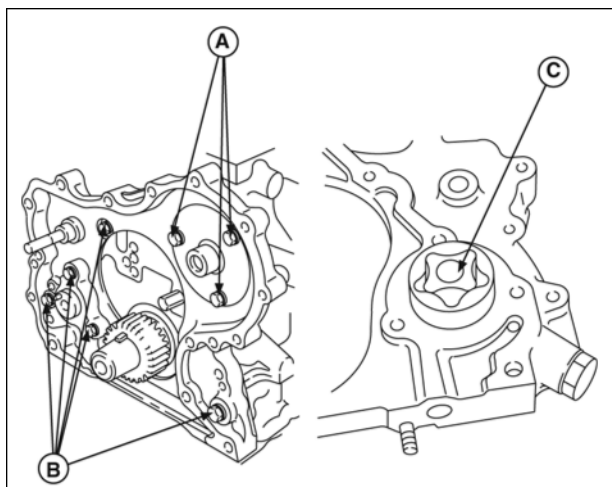

Figure 11
1. Remove three screws (A, Figure 11) and camshaft retainer.
2. Remove remaining five screws (B).